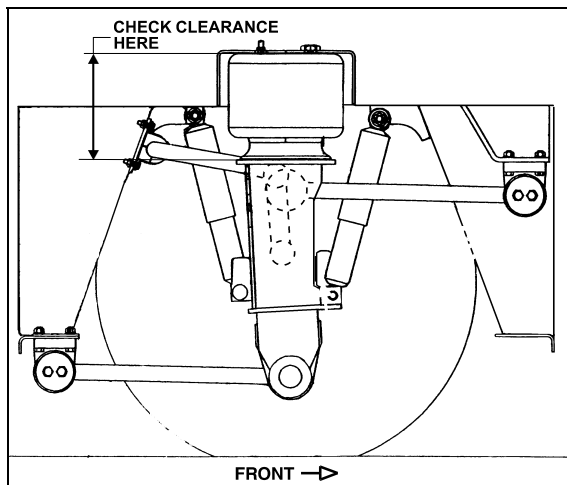

FIGURE 51: TYPICAL AIR SPRING CLEARANCE, FRONT I-BEAM AXLE 16108
1. With the vehicle at normal operating air pressure, check the air spring clearance as illustrated in figure 51. This clearance should be $12 \pm \frac{1}{4}$ " (305 \pm 6 mm) for the front I-beam axle air springs, $12 \frac{15}{16} \pm \frac{1}{4}$ in (328 \pm 6 mm) for the Independent Front Suspension air springs and $11\frac{1}{2} \pm \frac{1}{4}$ " (292 \pm 6 mm) for those on the drive axle.